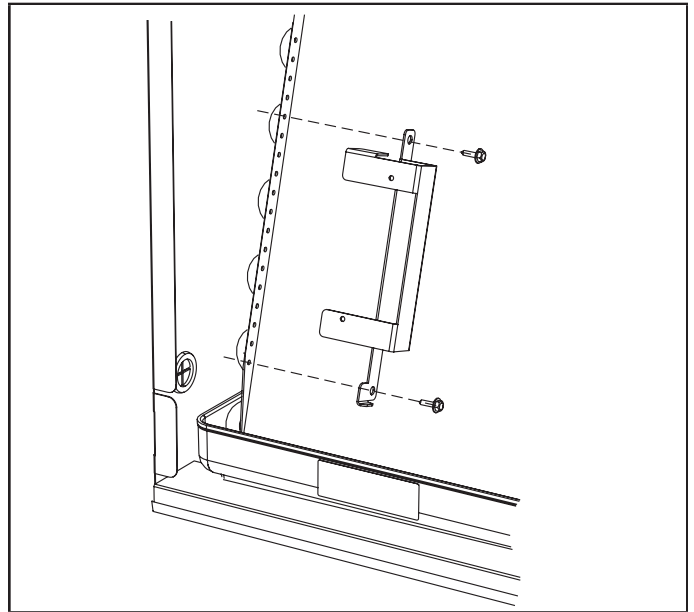

FIGURE 2
- 2 - Locate the bottom attachment hole in the coil end plate (figure 2).